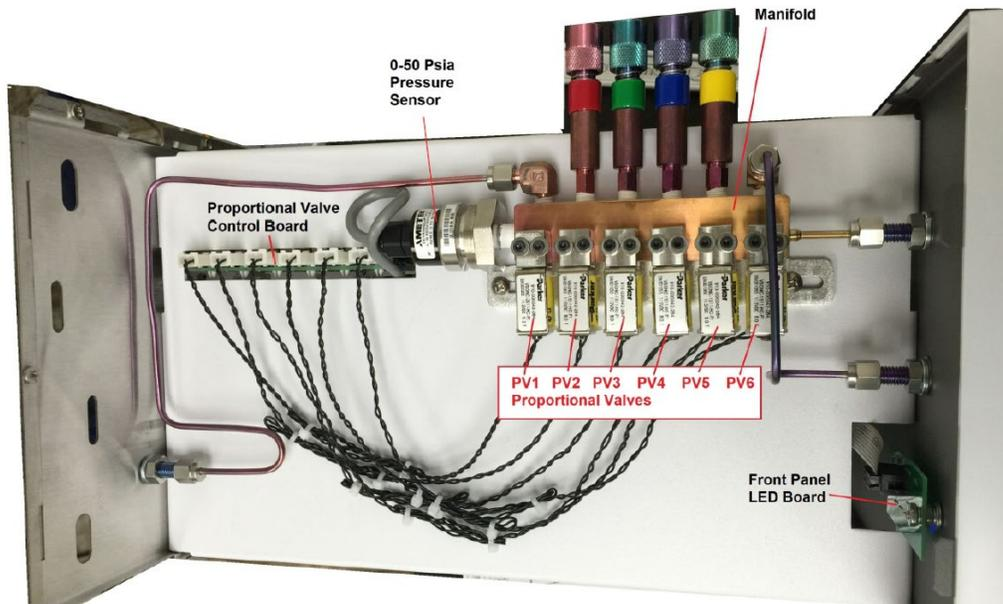

Figure 17: Entech 4700 Precision Diluter Top Panel Interior
- 4 Remove the top cover to expose the proportional valves and pressure sensor as shown below in Figure 17: